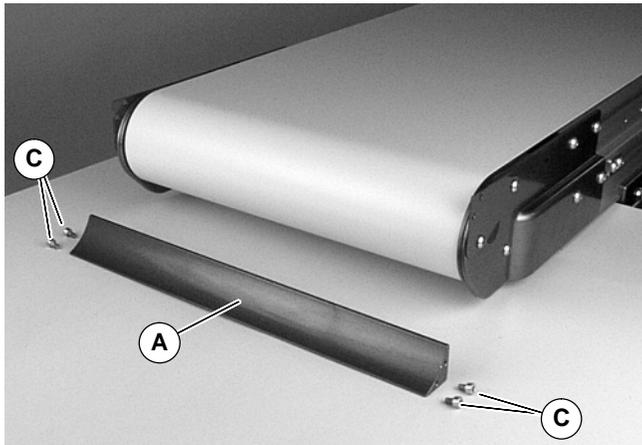
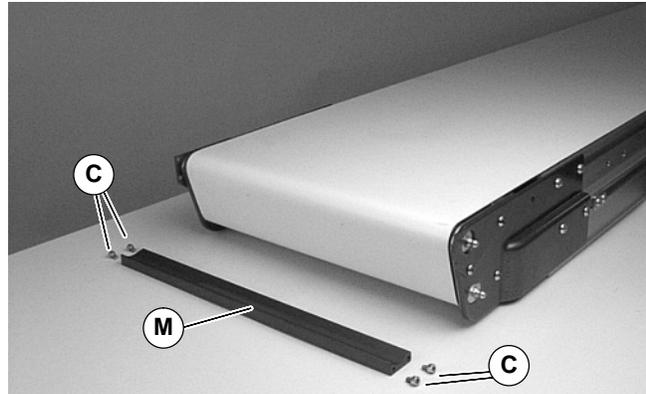

Figure 15
Figure 16
NOTE: Figure 15 shows a 3" (76 mm) diameter pulley idler end; 3" (76 mm) diameter pulley drive end similar.
Periodically, remove screws (C of Figure 15 or 16) and remove transfer plate (A of Figure 15) or (M of Figure 16). Clean any debris from between plate and conveyor belt. Replace transfer plate. While maintaining clearance between transfer plate and conveyor belt, tighten screws (C) to 36 in-lb (4 Nm).
1. Remove screws (C of Figure 15 or 16) and remove transfer plate (A of Figure 15) or (M of Figure 16).
3. Replace transfer plate. While maintaining clearance between transfer plate and conveyor belt, tighten screws (C) to 36 in-lb (4 Nm).